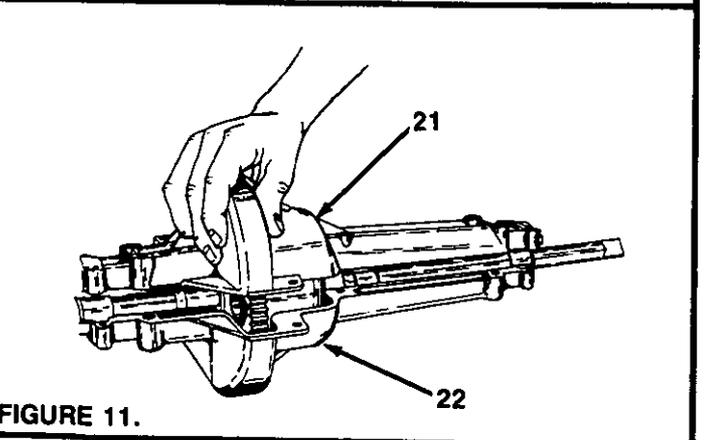

FIGURE 11.
7. Now you can lift off the top transaxle housing. See figure 11.